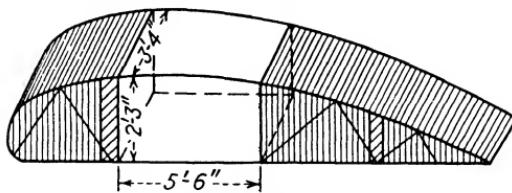

Fig. 89.
6. Approximately how many cubic feet of baggage can be stored in the plane wing compartment shown in Fig. 89?